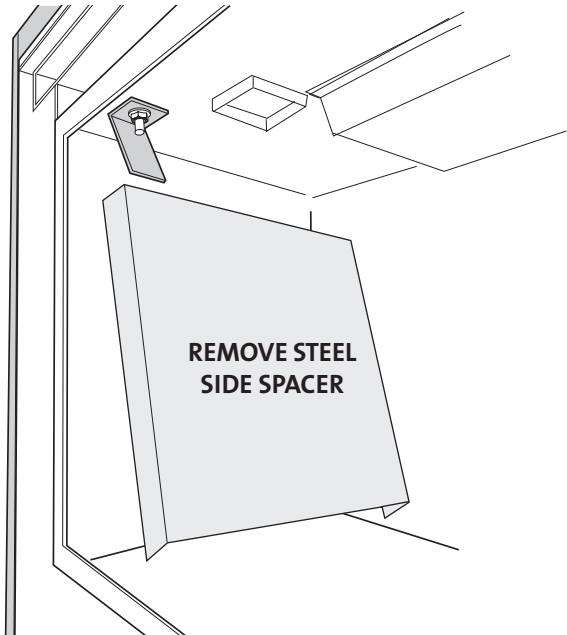

Figure 6.12.
3. Remove each steel Side Spacer Panel from the firebox. You will need to bend the retainer tabs out slightly to disengage the Spacer Panels. See fig. 6.12.